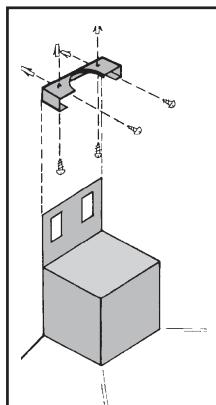

fig. 5
- Using the supplied screws and screw anchors, fix the upper flue bearing bracket to the ceiling and/or wall, checking that it is aligned with the hood (Fig. 5).
- Using the supplied screws and screw anchors, fix the upper flue bearing bracket to the ceiling and/or wall, checking that it is aligned with the hood (Fig.5).